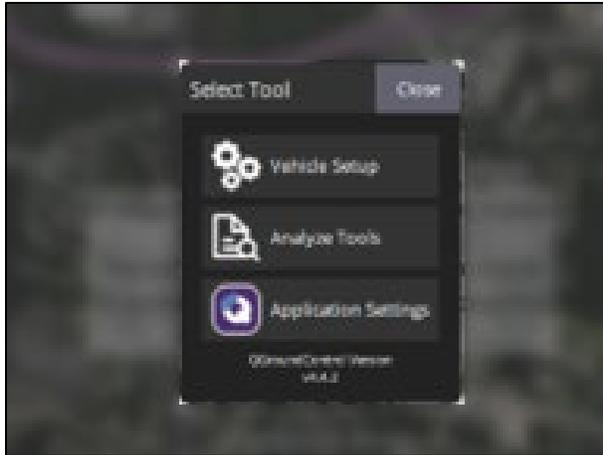

Figure 134 Select Tool menu in QGroundControl
1. In QGroundControl, navigate to the **Select Tool** dialog box shown in **Figure 134** by clicking the icon in the upper left, then select **Analyze Tools**.